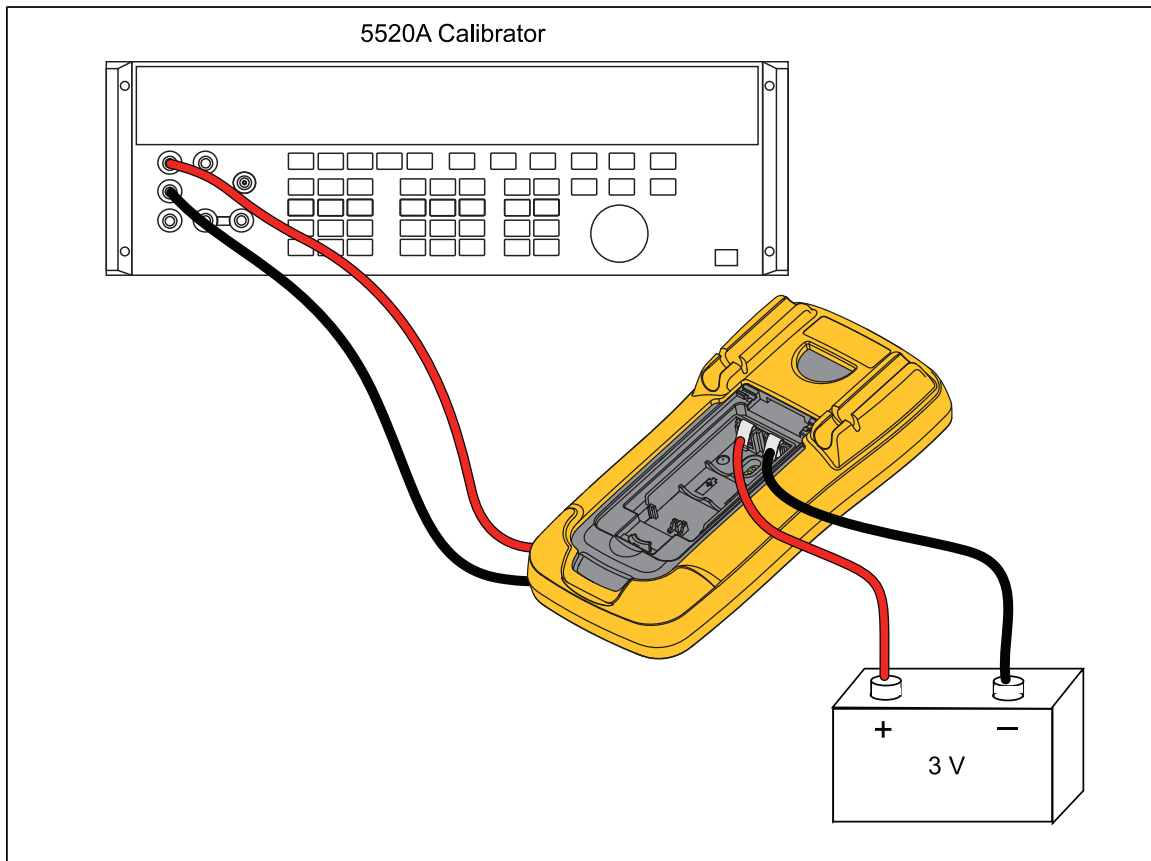

Figure 4. Calibration Connections
3. See Figure 4 to make the connections to power and a calibrator: